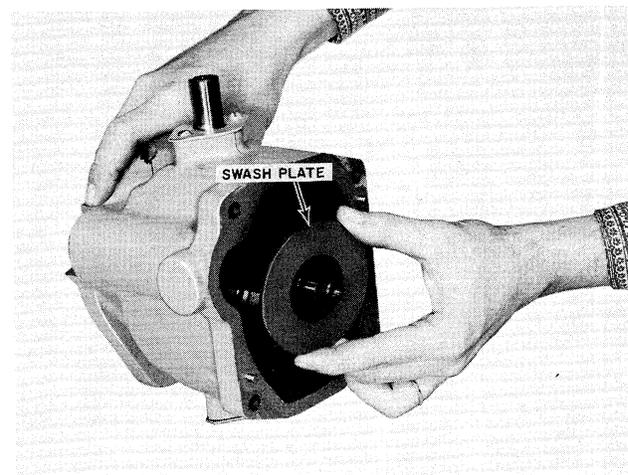

FIGURE 24
14. To disassemble the housing remove the swash plate which is recessed in the yoke. See Figure 24.